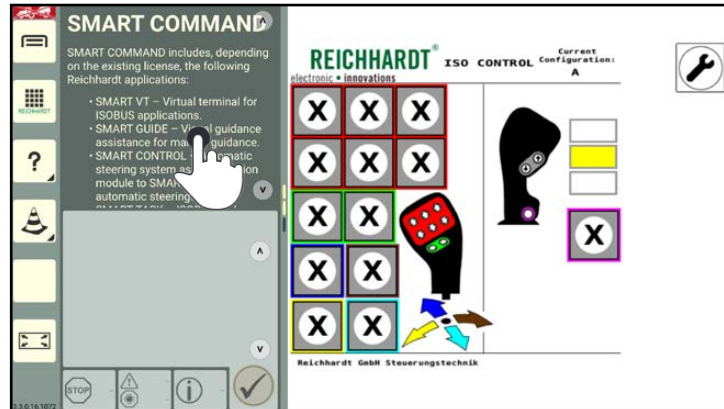

Fig. 83: Pressing and holding an application in the small window
1. Press and hold a fingers on a small window (see Fig. 83).